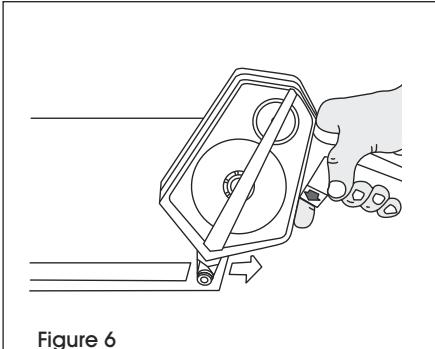

Figure 6
2. Keep roller on surface, release trigger and pull dispenser to break adhesive. (See Figure 6)